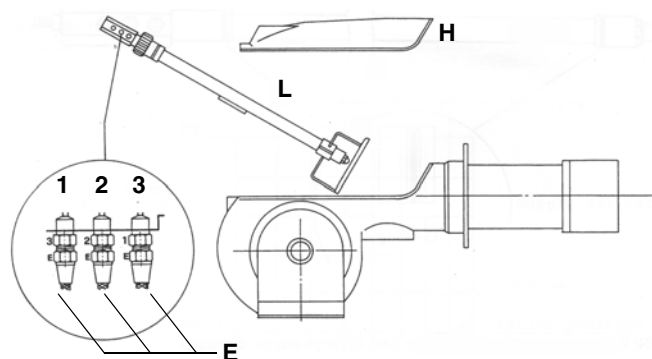
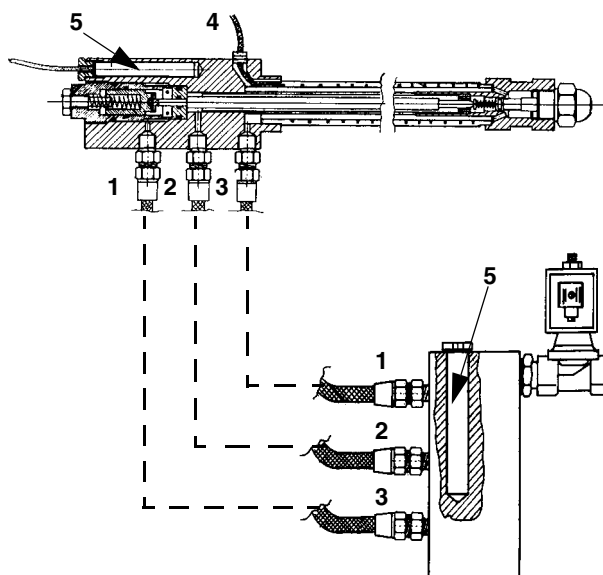

Fig. 23
Fig. 24
- Unscrew the oil connections E (Fig. 23) connecting the flexible pipes to the gun L and remove the whole assembly as shown in Fig. 23-Fig. 24.